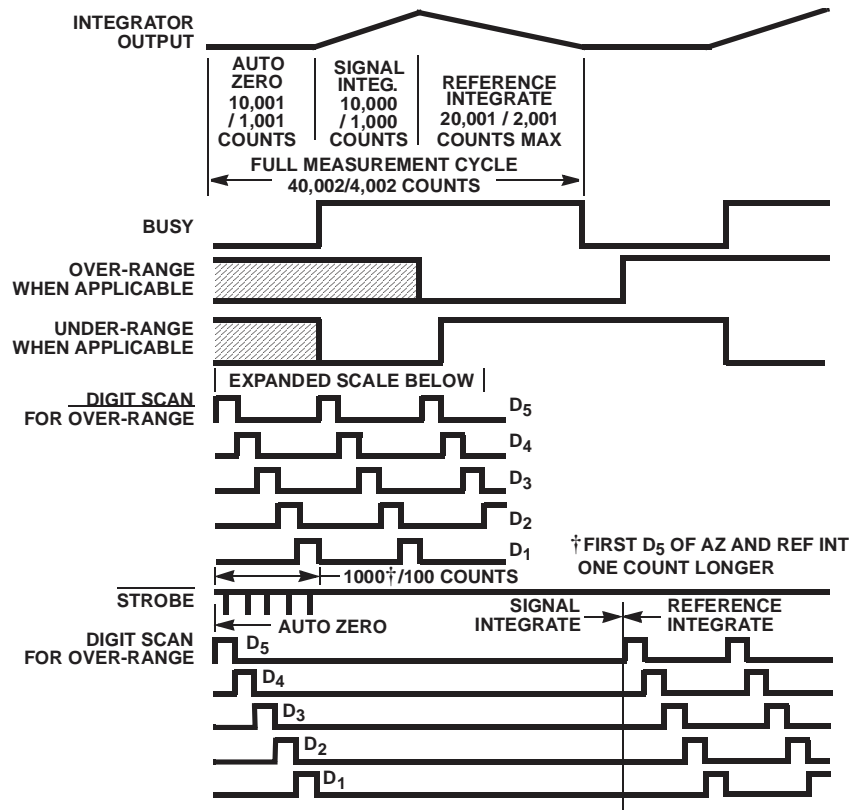

FIGURE 5. TIMING DIAGRAM FOR OUTPUTS
10. Tested in 31/2 digit (2,000 count) circuit shown in Figure 5, clock frequency 12kHz. Pin 2 71C03 connected to GND.
11. Tested in 41/2 digit (20,000 count) circuit shown in Figure 5, clock frequency 120kHz. Pin 2 71C03A open.